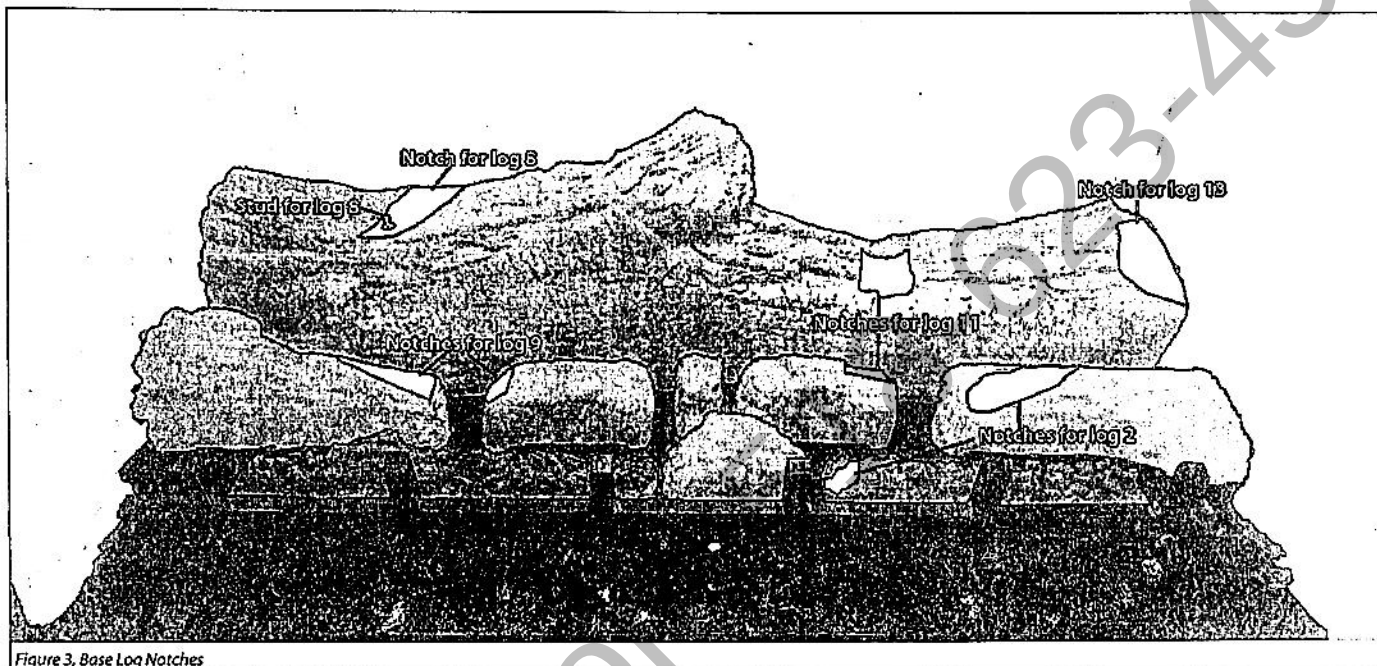

Figure 3, Base Log Notches
Use Figures 3, 4, and 5 together for the following instructions for proper log placement.
6. Align log 9 with the notches in log 2 and log 3 (Fig. 3). Place as
8. Align log 11 with the notch (Fig. 3) in the middle right of log 1, and place as shown in Fig. 5.
9. Align log 12 with the notch (Fig. 3) on log 7, as shown in Fig. 5.
10. Align log 13 with the notch on log 1 (Fig. 3), and place on logs 7 and 1, as shown in Fig. 5.